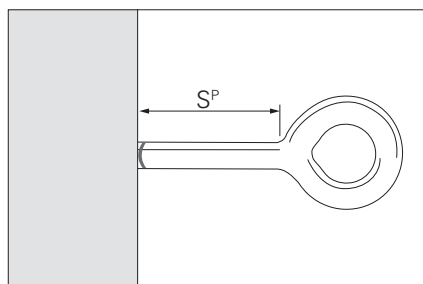

Fig. A12.02
- The eyebolt (**100**) including the ring must not protrude more than 7 cm from the anchoring base. This is ensured when the eyebolt is screwed in up to the last mark in front of the ring. (Fig. A12.02)